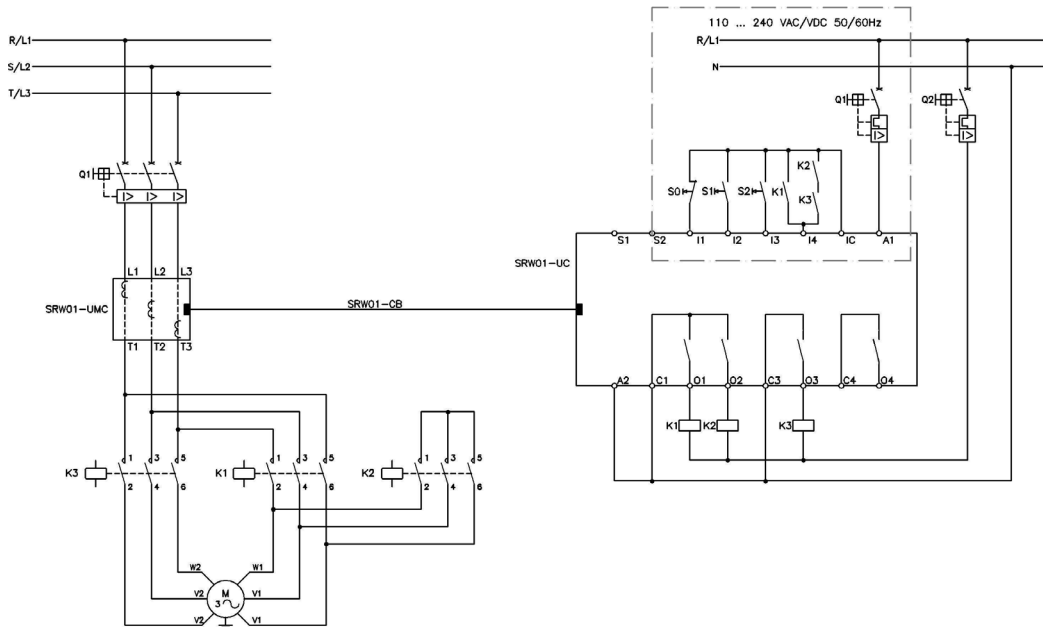

Figure 5.15 - Connection scheme for the Dahlander Starting Operation Mode using digital inputs at 24 Vdc and driven by pushbuttons (P230 = 1)
The scheme on Figure 5.15 shows an example of the use of the Control Unit (UC) on the Dahlander Starting operation mode with drive through digital inputs (P229 or P232 = 0) at 24 Vdc using three wires (pushbuttons) control logic (P230 = 1).